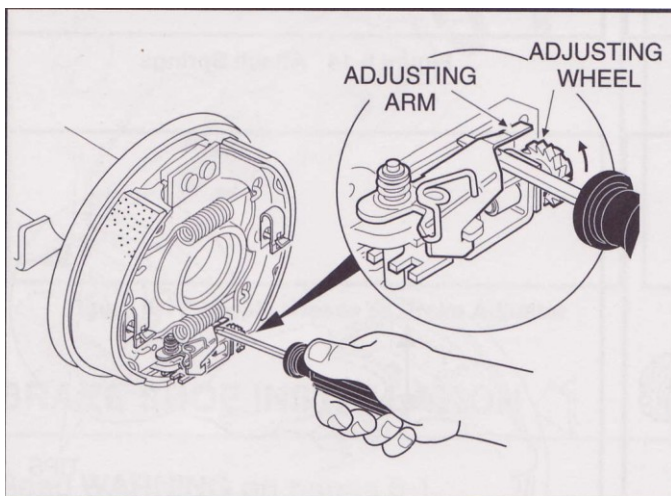

Figure 6-17
6. Place a flat blade screwdriver under the adjusting arm and raise the arm off of the adjusting wheel. While holding the arm up, turn the wheel upward until it stops (Figure 6-17). Remove the screwdriver.